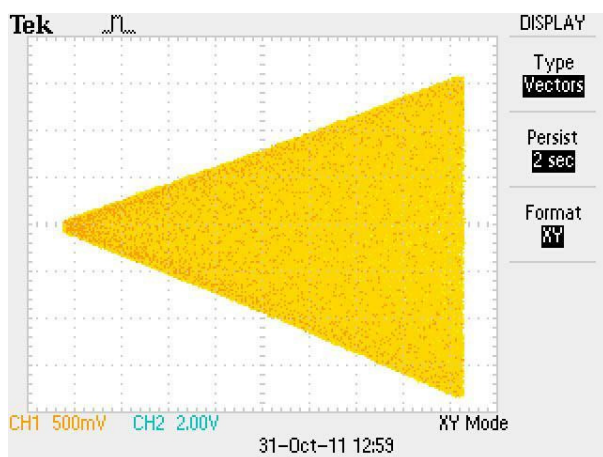

Figure 4 Station monitor display
Figure 4. Shown here is the amplitude of the modulated RF increasing in a linear fashion, from minimum at left to maximum at right. When the demodulated horizontal (X) is reversed the trapezoid will be reversed seen here.